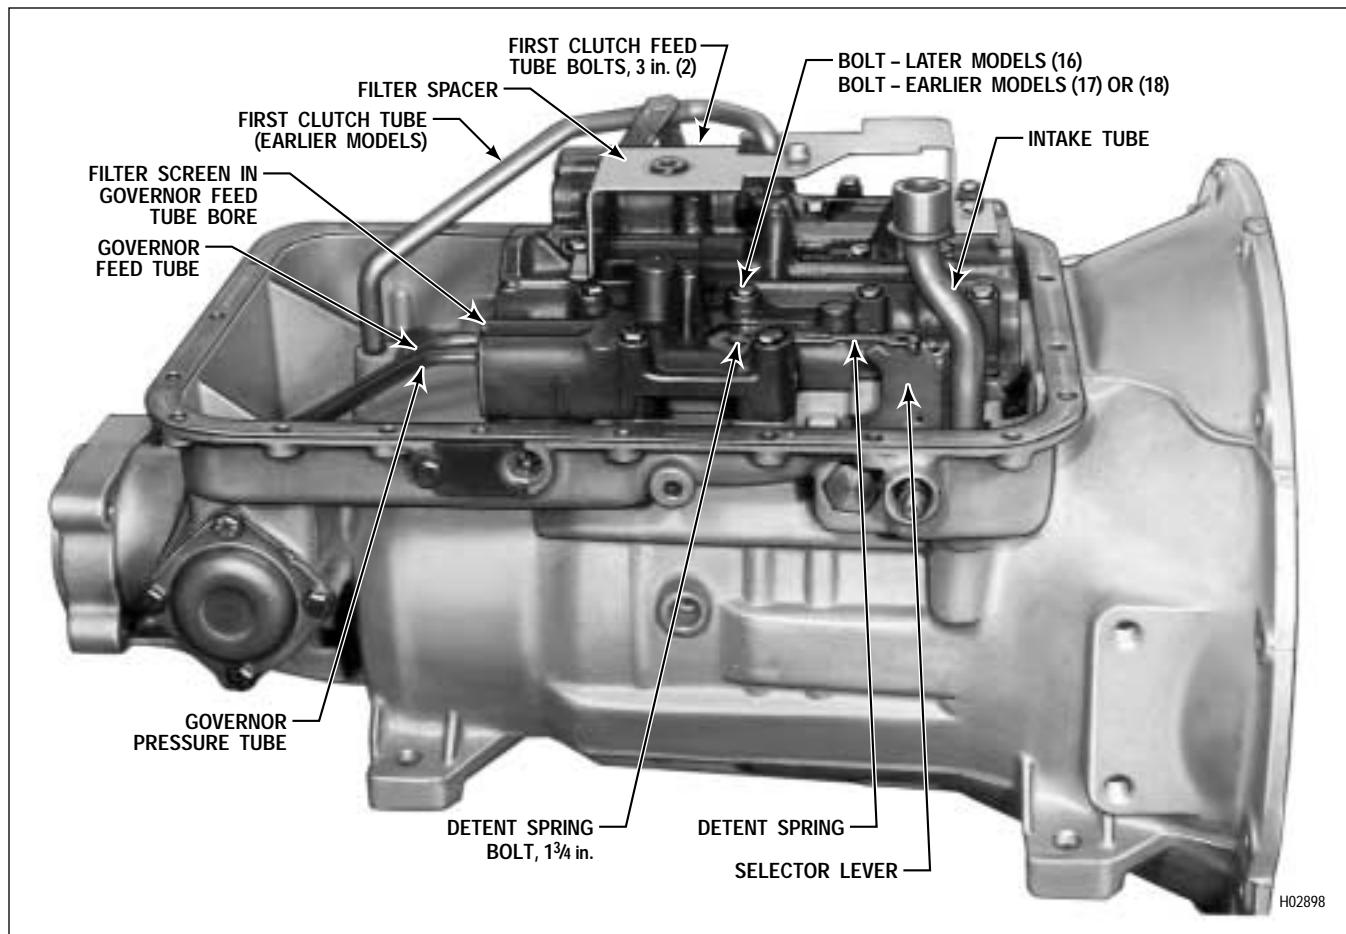
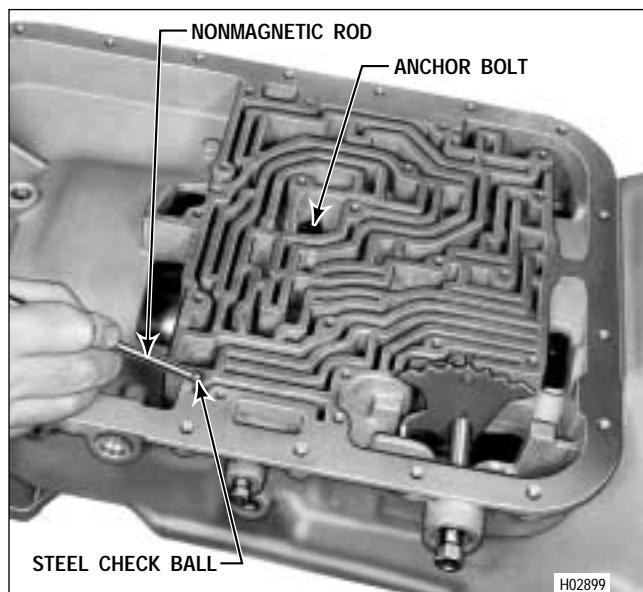

Figure 5-7. Removing Main Control Valve Body
Figure 5-8. Removing Governor Check Ball
(2) Remove the intake tube and sealring (Figure 5-7).
(1) Remove the bolt that retains the detent spring (Figure 5-7). Remove the spring.
(2) On later models, remove the two 3 inch bolts (Figure 5-7) that retain the first (reverse) clutch feed tube. Remove the tube.
(3) Remove the sixteen (seventeen or eighteen, earlier models)  $\frac{1}{4}$ -20 bolts that retain the main control valve body and filter spacer (if present).
main control valve body (Figure 5-7) by lifting upward on the body and the attached feed tubes.
(5) Remove the two feed tubes (three, earlier models). Remove the governor circuit screen, located in the governor feed tube bore (Figure 5-7).
(6) Refer to Paragraph 6-6 for rebuild of the main control valve body assembly.
(7) For earlier models, apply a small amount of oil-soluble grease to the end of a **nonmagnetic** rod ( $\frac{1}{4}$  inch diameter). Insert the rod (greased end first) into the valve body cavity and remove the steel check ball (Figure 5-8).
(8) Remove the center support anchor bolt and flat washer (Figure 5-8).